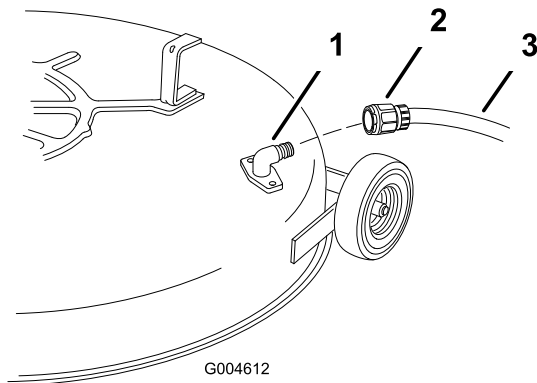

Figure 47
5. Attach the coupling to the end of the mower washout fitting and turn the water on high (Figure 47).